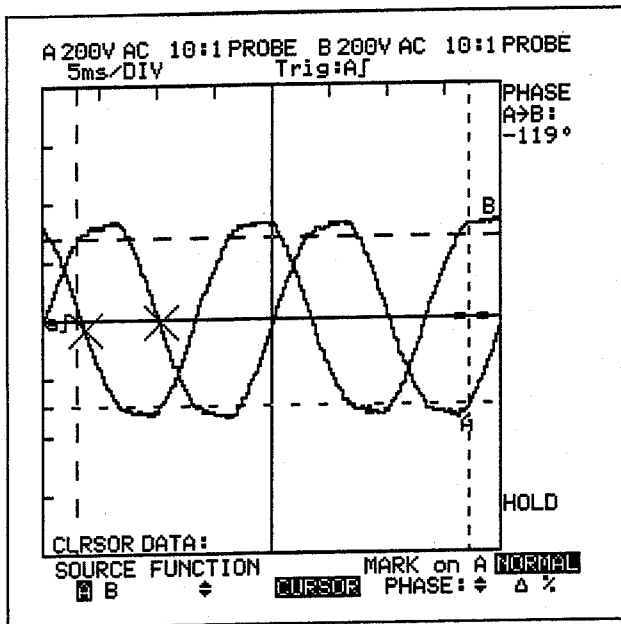

Figure 5.10 Phase measurement with markers
Position the two cursors on the waveform, see Figure 5.10.
⑥ ScopeMeters display shows the phase between the waveforms on channel A and channel B: "PHASE A→B -119°" (see Figure 5.10).